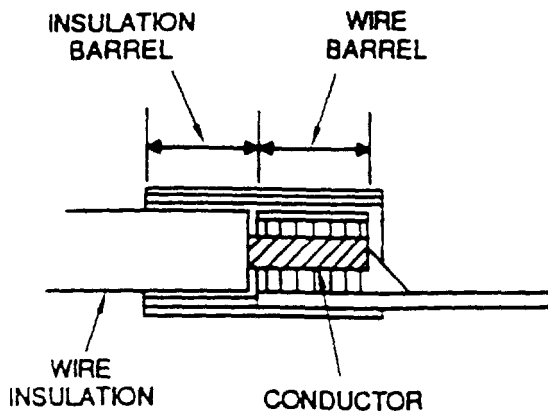

Figure 61. Insertion of Wire Into Insulated Terminal Lug
- (1) Indent centered on splice barrel.
- (2) Indent in line with barrel.
- (3) Barrel not cracked.
- (4) Wire cannot be pulled out of splice.
(5) Maximum gap of 1/64 for wire gages 10 through 25 (Figure 61).